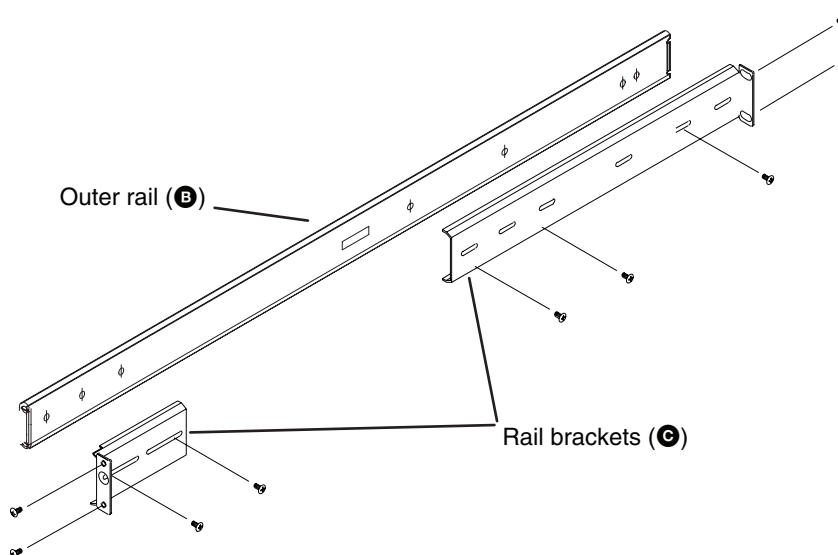

Figure 194. Installing the Outer Rail (B) to the Rail Brackets (C)
5. Secure the outer rails to the rail brackets (see figure 194).